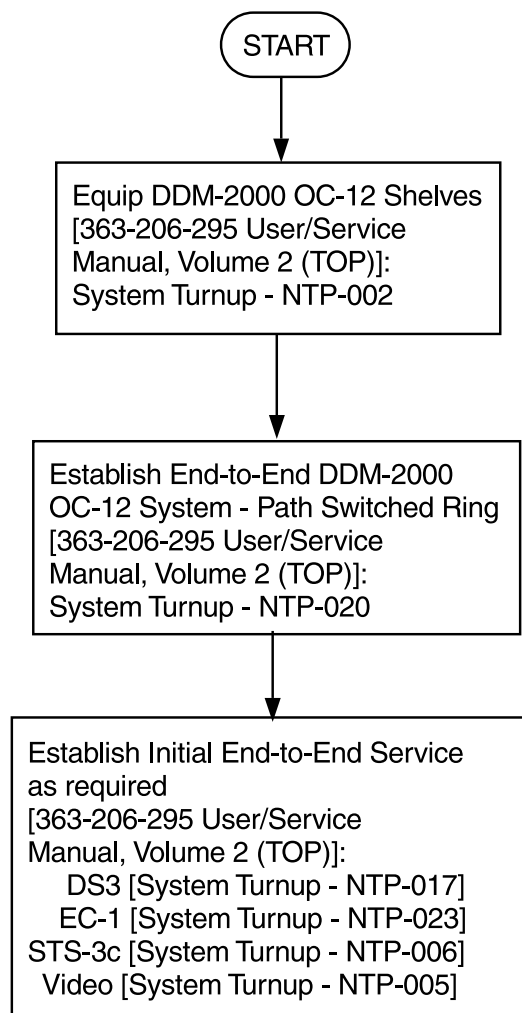

Figure 14. DDM-2000/FT-2000 Large Network Configurations — DDM-2000 OC-12 Path Switched Ring
- Figure 14 End-to-End DDM-2000 OC-12 Path Switched Ring System